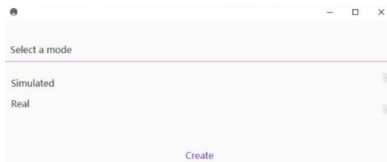

Figure 1. Mode Selection Interface
- 1) Double-click the icon of MGISP-960 on the desktop. The mode selection interface is displayed, as shown in following figure 1. Select **"Real"** and click **"Create"**.